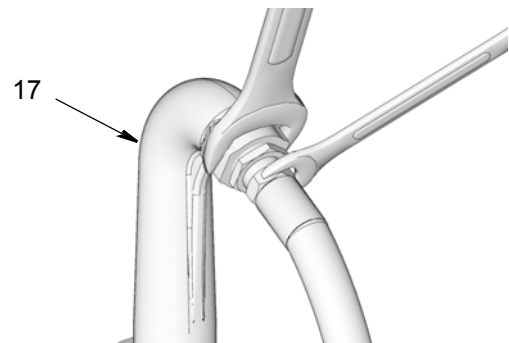

FIG. 35
5. Attach end of the hose to the outlet (17) using two wrenches on the flats, working in opposite directions, to securely tighten the hose to the outlet fitting (FIG. 35).